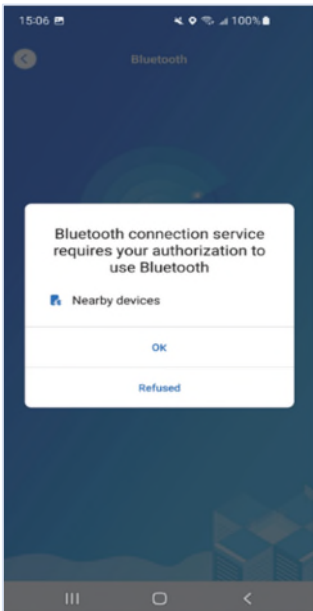

Fig. 30
10. Follow any system prompts to enable access to Bluetooth and camera [Fig.30 - 32].